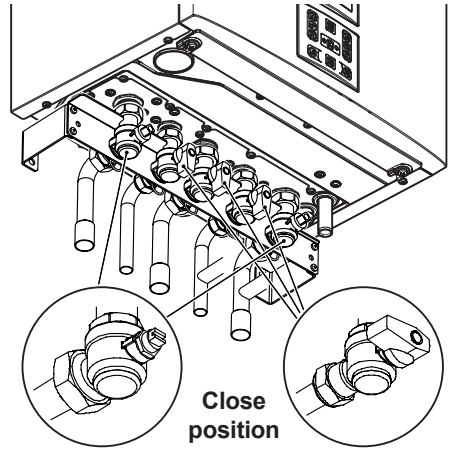

Fig. 2.29
- Shut off the gas supply cock and the valves for the water circuits fitted under the boiler Fig. 2.29.